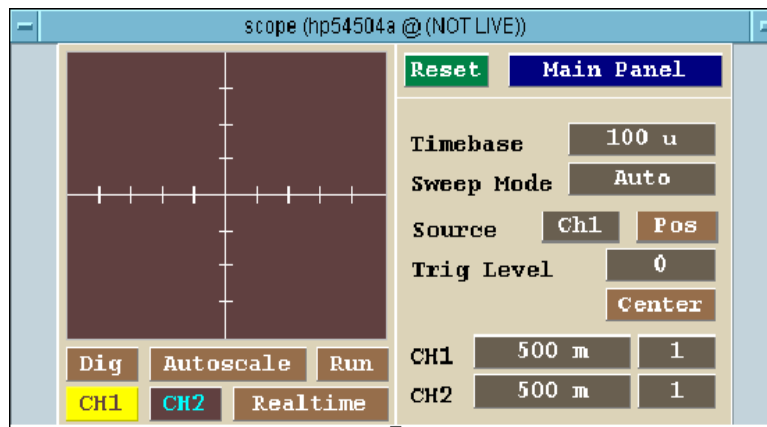

Figure 3-1 Selected Agilent54504a @ Not Live
- 1 Open EXER02.1. It should look like Figure 3-1. Save it as EXER03.1 immediately.